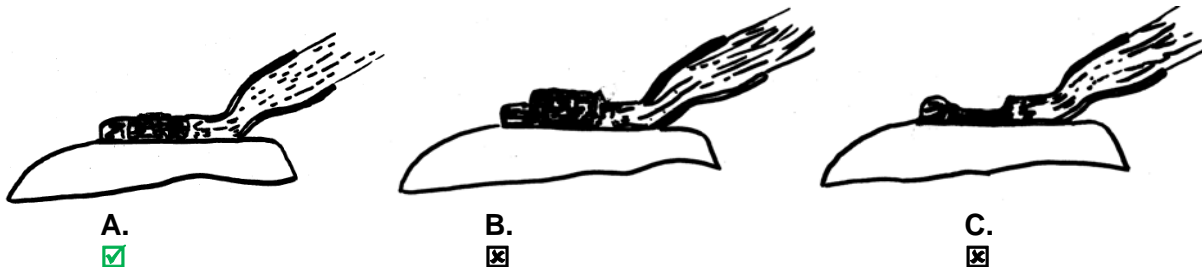

Figure 9
The shank of the plain pin must be carefully broken off with a hammer taking care not to damage the lug. This must be done before another pin braze is made to the bond. After breaking off the shank the broken surface should be level or thereabouts with the outer surface of the lug ([figure 9 \[A\]](#)). The lug shall be complete in all aspects.
If the surface of the broken pin is proud of the surface of the lug this is an indication that the brazing time was too short * ([figure 9 \[B\]](#)). The reason for a short braze time is usually the result of excessive current being drawn due to the gun "lift height" being incorrect. This short time can also be caused by a poor earth connection.
If the surface of the broken pin is below the surface of the lug, this is an indication that the brazing time was too long ([figure 9 \[C\]](#)). The reason for a long braze time is the result of insufficient current being drawn. Insufficient current is usually the result of a poor battery condition.
*** When using cable lugs part number #278 100 9000 /#278 100 7360 this result ([figure 9 \[B\]](#)) is acceptable due to thickness of copper material at braze area. Height of remaining brass shank should not exceed 2mm.**